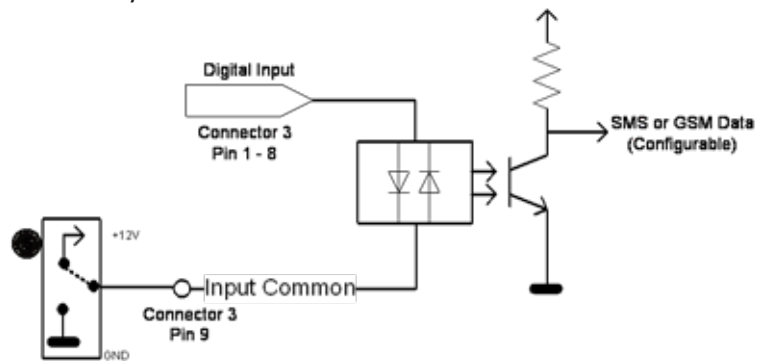

Figure 4; Digital input circuitry
- 5: Select +12V or GND as the Common Input Reference Voltage. When this switch is in the +12V position, this voltage will be available on the Common input on connector block 3. In GND position, Common Input will be connected to GND. See figure 4 for details.